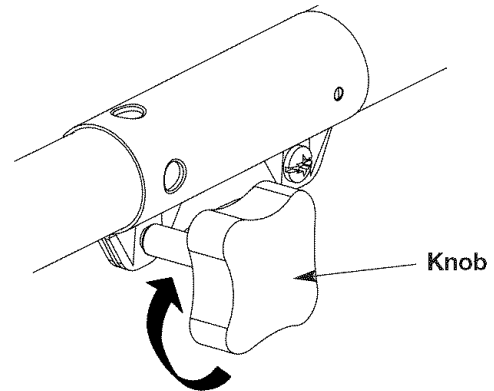

Fig. 8
3. Turn the knob clockwise to tighten (Fig. 8).